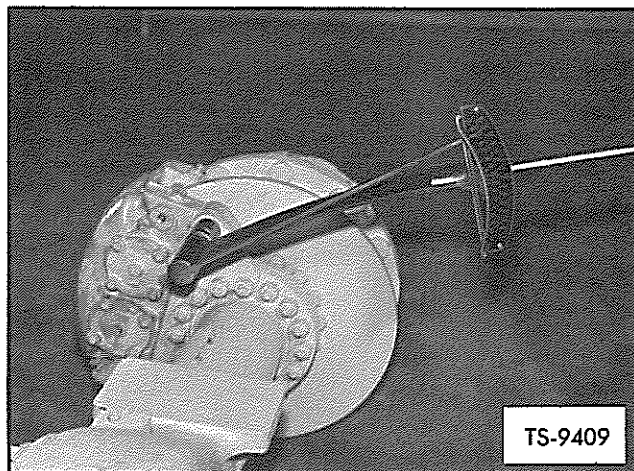

Fig. 32. Torque Mounting Bolts
27. Reinstall brake head on axle as shown in Figure 32. Torque mounting bolts to 220-240 ft. lbs. dry. Close both bleeder screws and reconnect hydraulic brake line to piston retaining inlet cap.